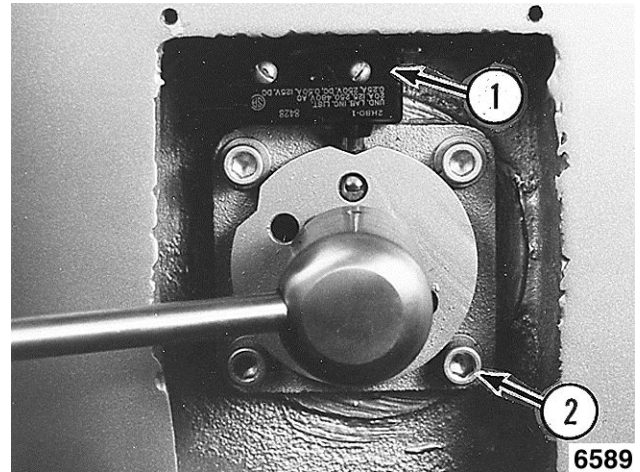

Fig. 44
9. On timer equipped mixers, remove the micro switch [1] Fig. 44 located above cam of speed selector.
10. Remove speed selector shifter assembly [2] Fig. 44.